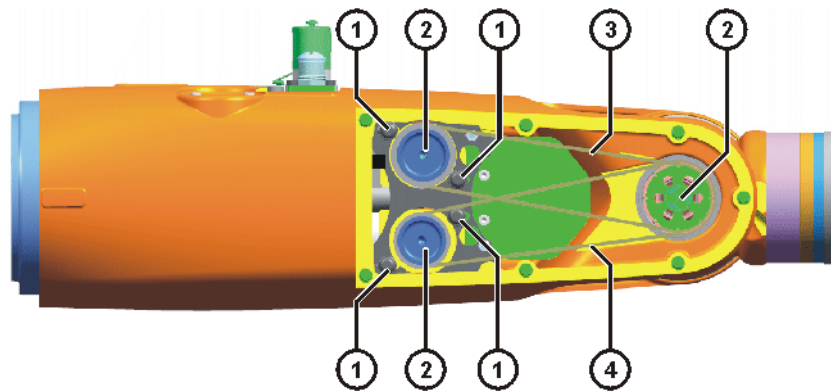

Fig. 9-4: Removing the toothed belt – example
2. Slacken 2 M4x10-10.9 fillister head screws on motor A5 and motor A6. (>>> Fig. 9-4)